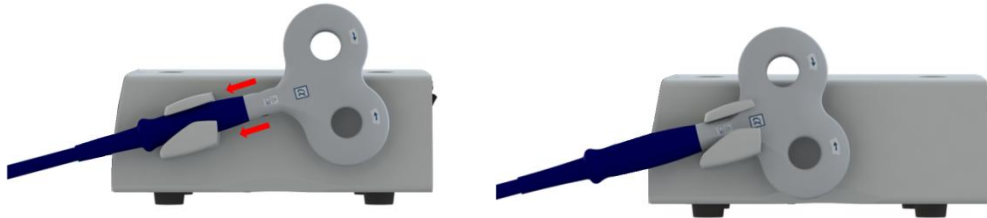

Figure 4.4: Attaching the coil to the coil holder
1. Place the stimulating coil to be used into the coil holder on the right hand side of the stimulator as instructed in Figure 4.4\*. If using a stand held coil, place the coil in the stand.